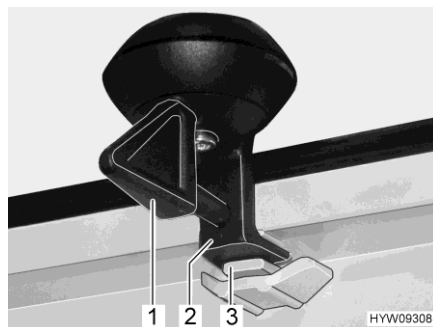

Fig. 82 Lock (ventilation position)
- Turn the lever (Fig. 82,1) one quarter turn. The lock (Fig. 82,2) must slide into the top recess (Fig. 82,3).